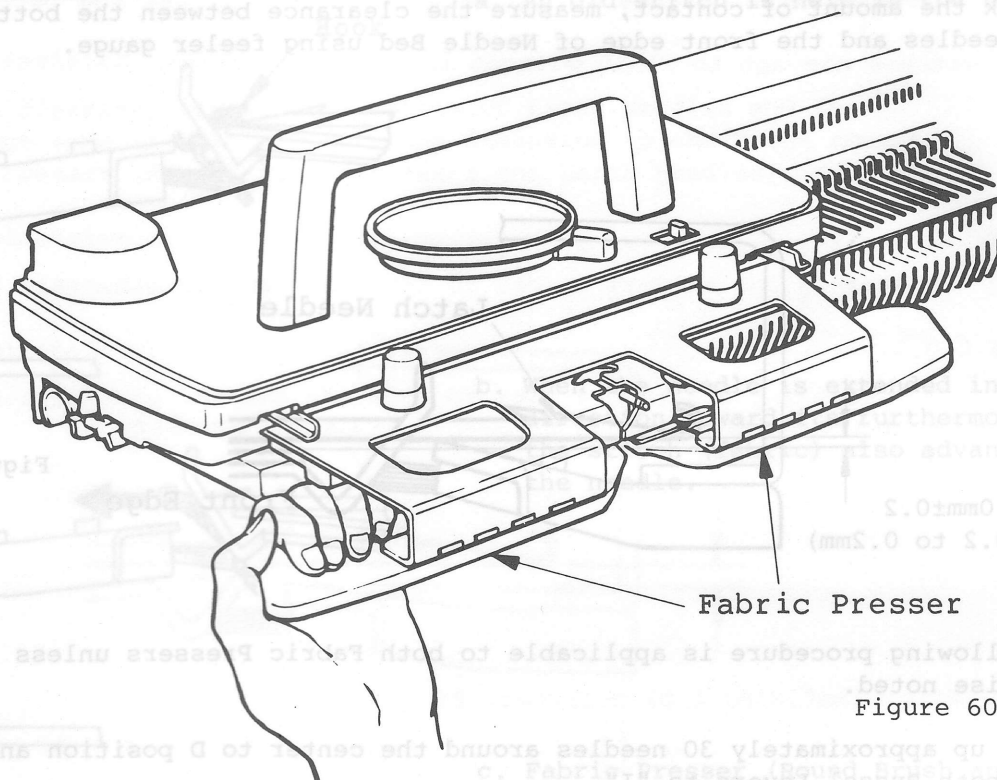

Figure 60.
4. If the Fabric Presser is in excessive contact with the needles, position the Carriage to either end where the presser to be adjusted is located, and pull down the presser by hand to adjust its angle adequately as shown in Figure 60.